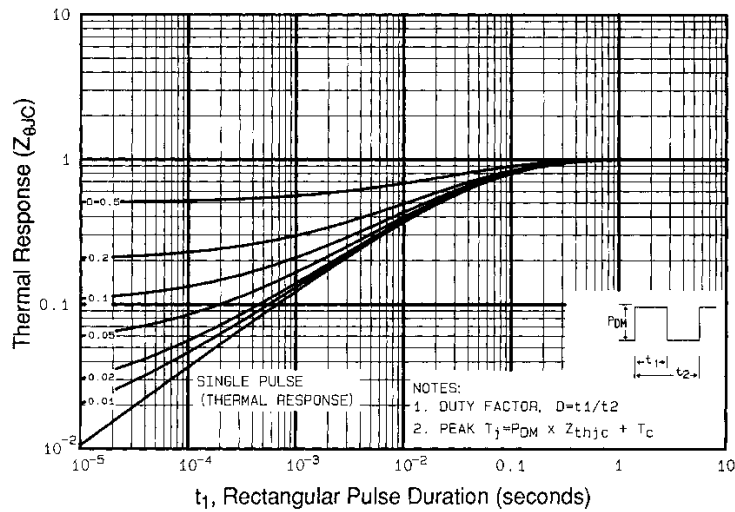

Fig 11. Maximum Effective Transient Thermal Impedance, Junction-to-Case
- ① Repetitive rating; pulse width limited by max. junction temperature. (See fig. 11)
- ② $V_{DD} = 50V$, starting $T_J = 25^\circ C$, $L = 27mH$
$R_G = 25\Omega$, $I_{AS} = 6.2A$. (See Figure 11)